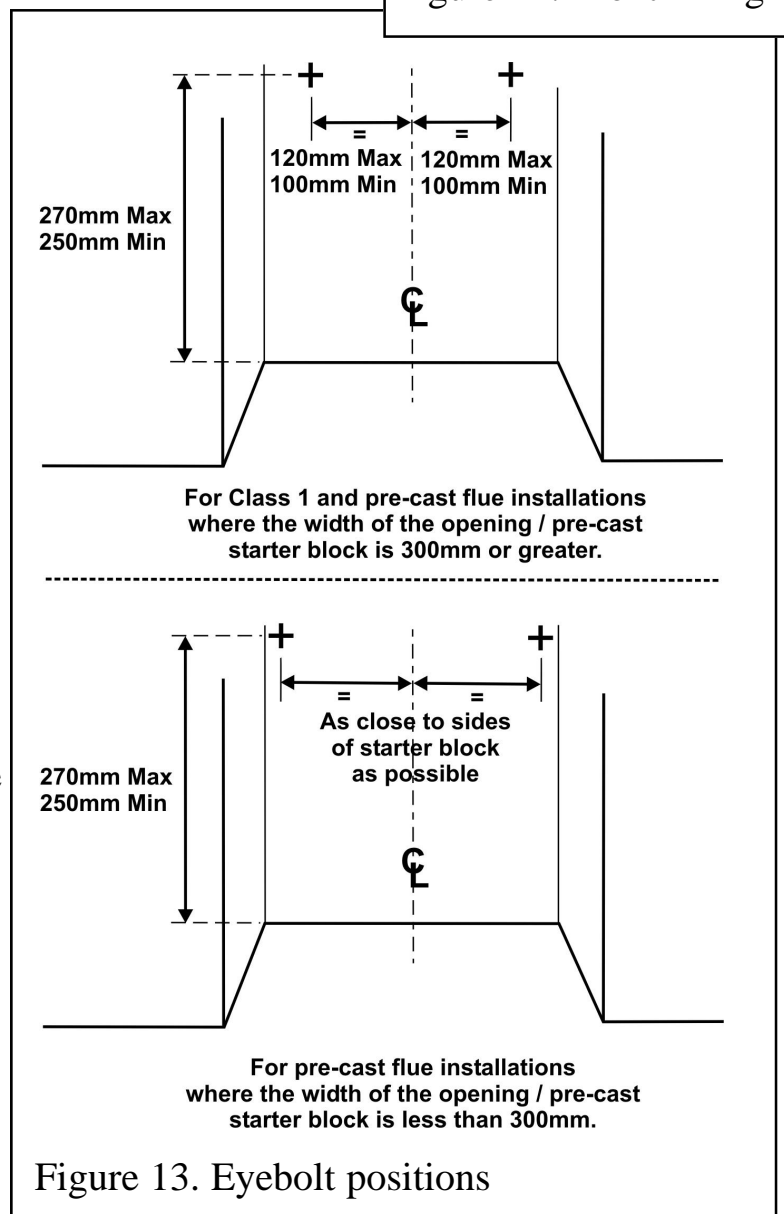

Figure 13. Eyebolt positions
2. Drill two holes in the rear wall of the fireplace for the eyebolt plugs. The holes should be drilled within the range of positions shown in figure 13 using a no.12 masonry drill. The holes should be equidistant each side of the centre line of the fireplace to ensure that the appliance finishes centrally in the opening when tension is applied to the cables.